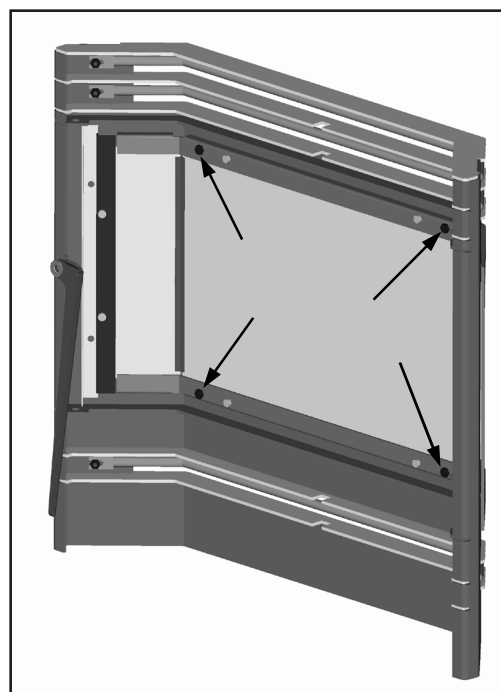

Figure 38: Inner side of Meridian door.
When stove is off and cool, open the door. Remove the four (4) #8 hex nuts around the inside of the glass retainer shown in Figure 38.